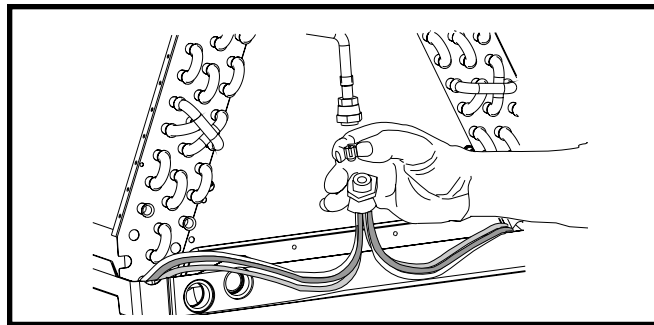

Figure 8. Restrictor Insertion into Distributor Body
8. Insert the new orifice into the distributor body, rounded end down. See Figure 8.